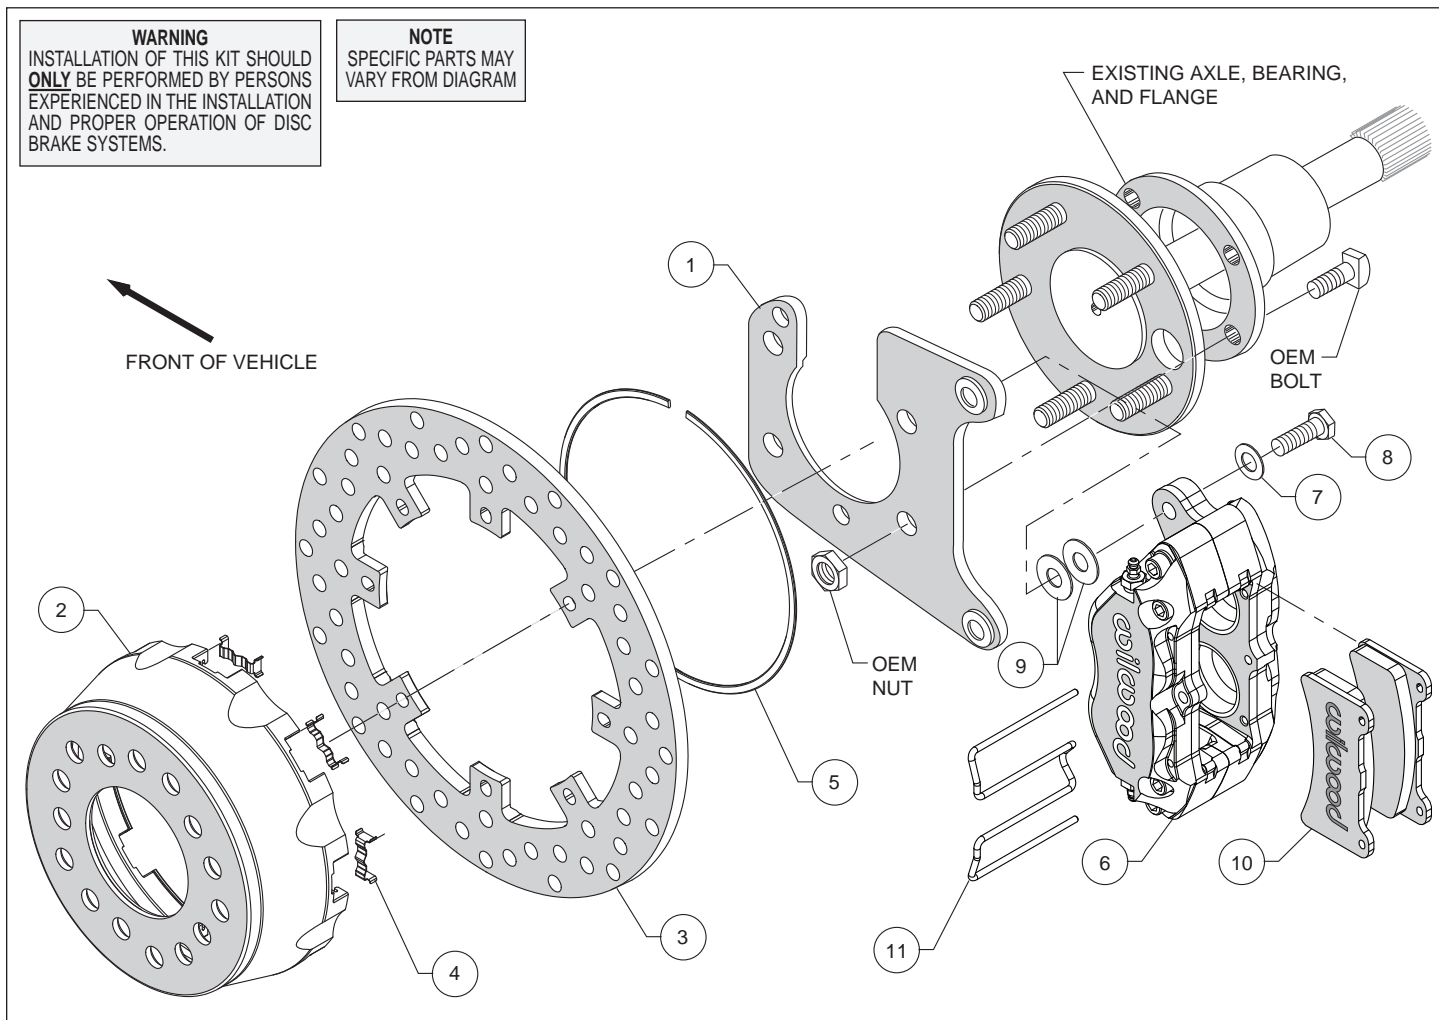

Figure 1. Typical Installation Configuration
Assembly Instructions (numbers in parenthesis refer to the parts list and Figure 1 on the preceding pages): **CAUTION:** All mounting bolts must fully engage clinch nuts. Be sure to check that all bolts are either flush or protruding through flanged side of clinch nut after shimming, Figure 5.
- Install the caliper mounting bracket (1), with the slot for the axle pointing upward, to the housing flange using the OEM bolts and nuts, as shown in Figure 1 and Photo 1. Ensure that the heads of the clinch nuts are facing outboard, Photo 1. Apply red *Loctite*® 271 to the OEM bolt threads and torque to OEM specifications.
- Insert the dynamic mount wear plates (4) into the slots in the hat (2) making sure the tabs snap in place, Photo 2. Orient the rotor (3) as shown in Figure 1 and Photo 3, with the flush mount tab side facing the hat. Attach the rotor to the hat using snap ring (5) by pushing down on the rotor and installing the ring into the groove in the hat, as shown in Photo 4. Ensure that the ring is fully engaged in the groove.
- Align the correct hole pattern in the hat (2) with the axle stud pattern and slide the hat/rotor assembly onto the axle hub. **NOTE:** The hat must fit flush against the axle flange or excessive rotor run out may result. Install three lug nuts (finger tight) to keep the hat/rotor in place while continuing with the installation. **NOTE:** The hats included in this brake kit are drilled for .68" diameter wheel studs.
- **NOTE:** Please reference the caution statement at the beginning of the assembly instructions. Mount one caliper (6) onto the mounting bracket (1) using bolts (8) and washers (7), as shown in Figure 1. Initially place two .035" thick shims (9) on each bolt between the caliper and the bracket, Photo 5. Temporarily tighten the mounting bolts and view the rotor (3) through the top opening of caliper. The rotor should be centered in the caliper, Photo 6. If not, adjust the caliper by adding or subtracting shims between the bracket and the caliper. Always use the same amount of shims on each of the two mounting bolts. **NOTE:** The end of each bolt must be flush with or slightly protruding from the head of the clinch nut. If necessary, place spare shims between washer and caliper mounting ear to achieve the proper clinch nut engagement, as shown in Figure 5. Once the caliper alignment and clinch nut engagement are correct, remove the bolts one at a time, apply red *Loctite*® 271 to the threads, and torque to